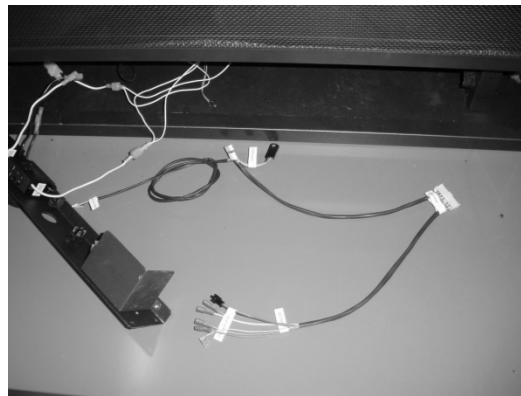

Figure 16
- 11 Place the GreenSmart wiring harness in front of the fireplace, noting the position of each connector (see Figure 16).